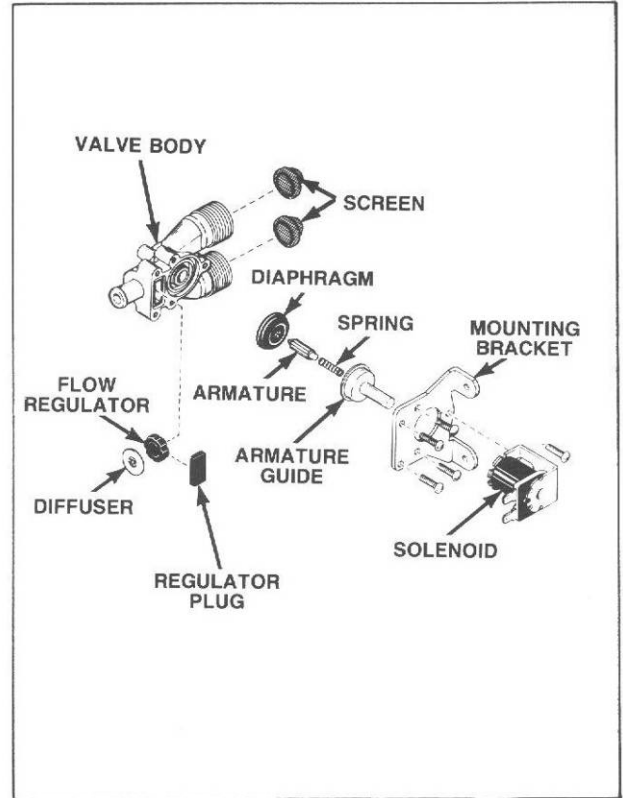

Figure 23
**NOTE:** Refer to Figure 23 for water mixing valve assembly sequence.